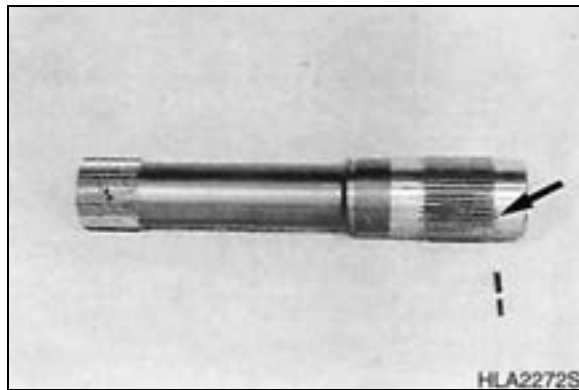

Figure 322
3. Insert both roll pins (\varnothing 2.50 mm (0.0984 in) and \varnothing 1.50 mm (0.0591 in)) flush mounted into bore (Figure 322) of drive shaft.